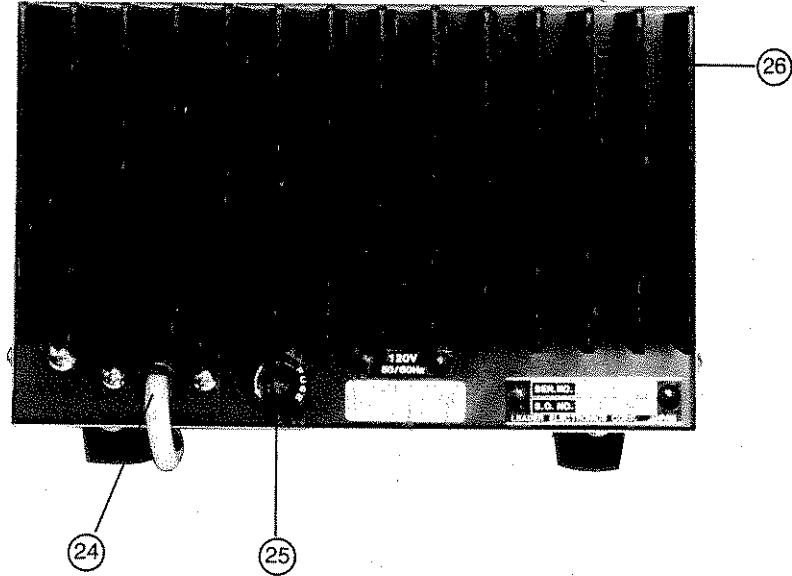

Figure 4-2. Rear Panel
- (18) VOLTAGE +6V control This sets the output voltage for the +6V source.
- (19) Voltmeter Gives voltage indication in the +25V and +6V ranges, selected by one of the METER (3), (4), and (5) buttons.
- (20) Voltmeter Zero adjust
- (21) Handle
- (22) Ammeter Zero adjust
- (23) Ammeter Gives current indication in the ±25V and +6V ranges, selected by one of the METER mode (3), (4), and (5) buttons.
**Rear Panel.** Refer to Figure 4-2.
- (24) AC Cord Power cord, 3-wire grounded
- (25) Fuse LPS-151: